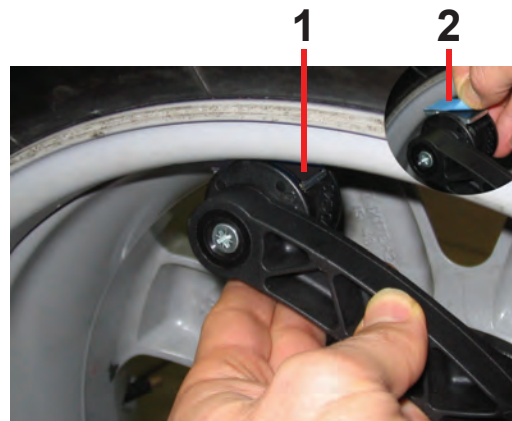

Figure 28b
**NOTE:** Clean the area where the weight will be placed before attaching the adhesive weights. In compliance with the imbalance detected, approach at the SAPE head the suitable adhesive weight. (1, Figure 28b). Remove the protective tape (2, Figure 28b) from the stick-on weight and apply it to the correct point on the rim.